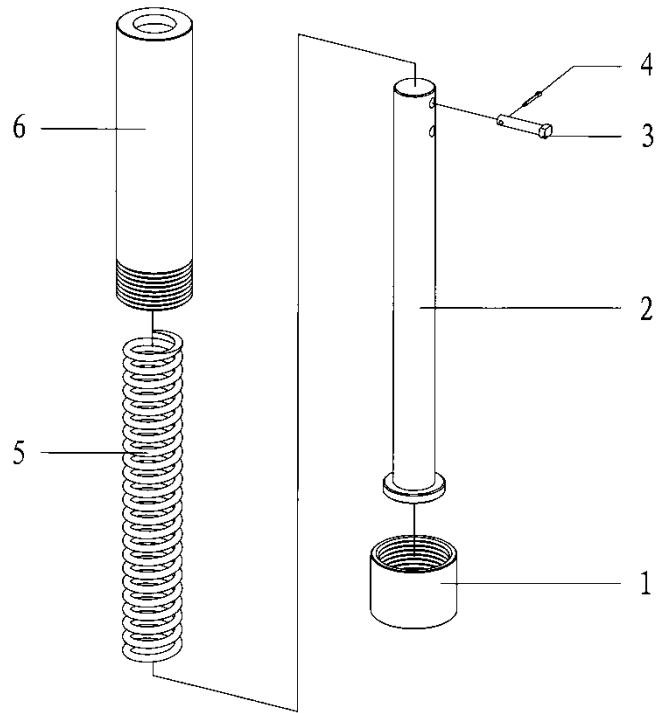

Fig 17
9.13 Front guide pole assembly(Fig17,Table 13)